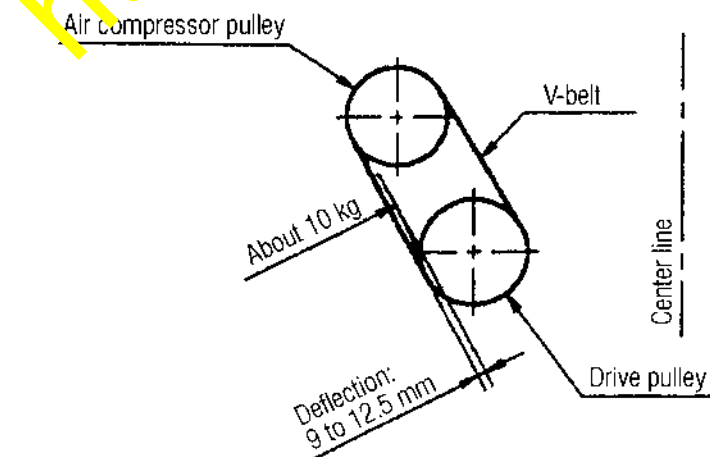

Fig. 1
- 2) After finishing the reinstallation work, adjust the belt tension as per the procedure given in Fig. 1. below.